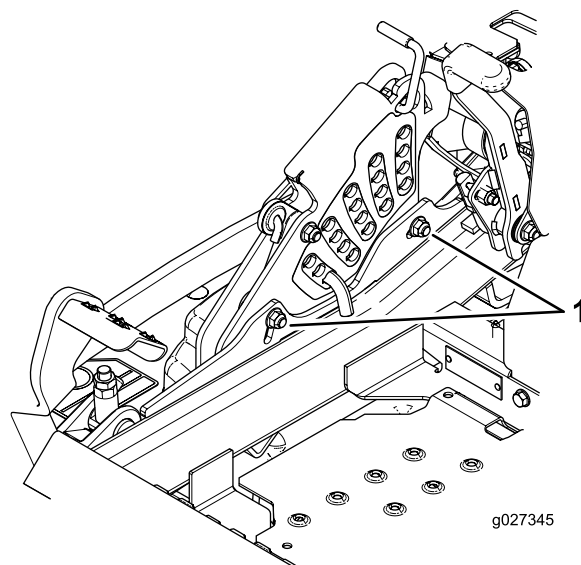

Figure 95
12. To adjust the single point system, loosen the two bolts at the bottom of the height-of-cut plate. Refer to Figure 95.
14. Tighten the 2 bolts at the bottom of the height-of-cut plate (Figure 95).